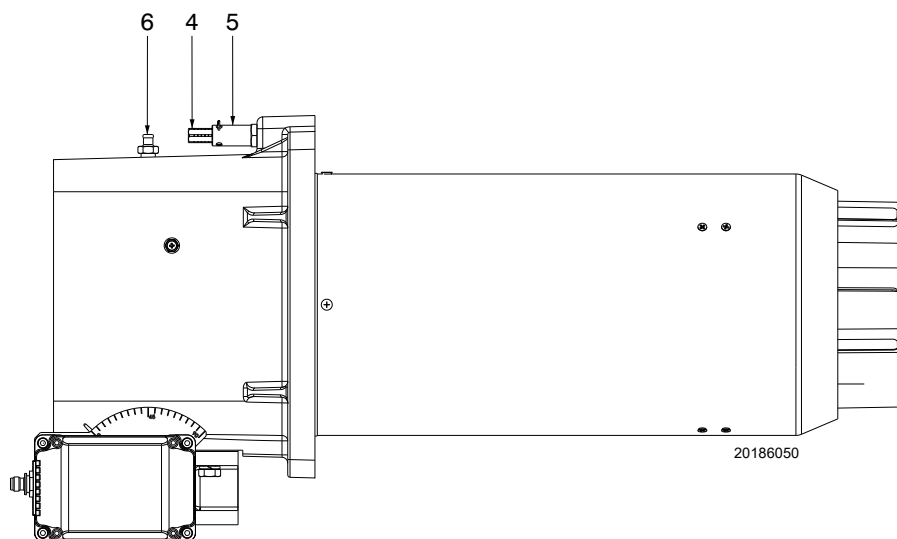

Fig. 16
- Rotate the screw 4)(Fig. 16) until the notch you have found corresponds with the front surface 5) of the flange.